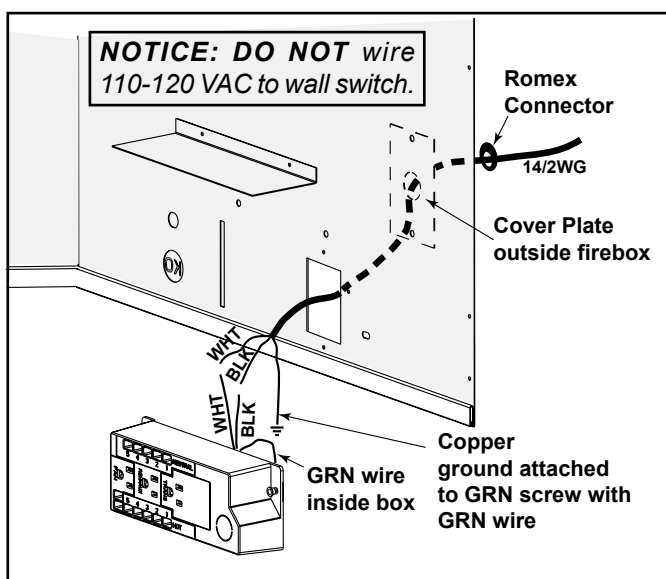

Figure 8.1 Junction Box Detail
- Remove the screw attaching the junction box/receptacle to the outer shell, rotate the junction box inward to disengage it from the outer shell (see Figure 8.1).
- Pull the electrical wires from outside the appliance through the opening into the valve compartment and secure wires with a Romex connector. See Figure 8.1.